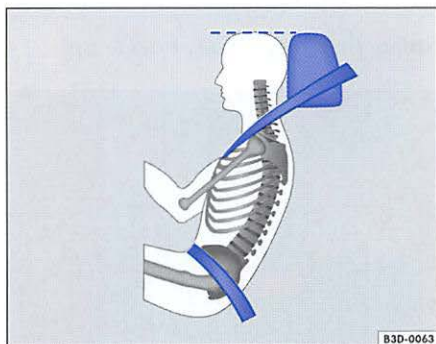

Fig. 14 Head restraint and safety belt position as seen from the side
- The lap belt portion of the safety belt must be positioned as low as possible across pelvis and never over the abdomen. Make sure the belt lies flat and snug ⇒page 20, fig. 14. Pull on the belt to tighten if necessary.